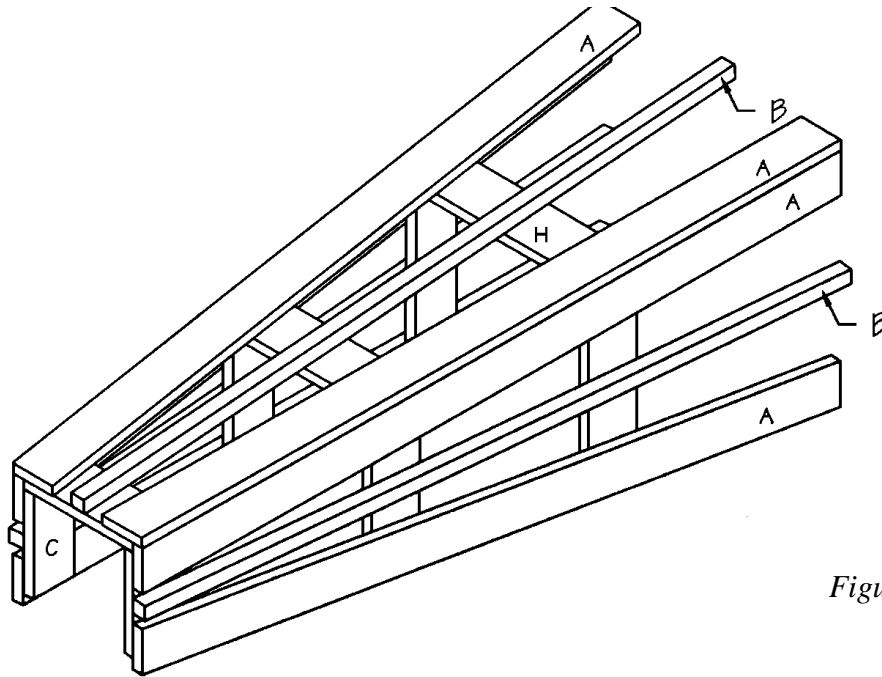

Figure 6
5. Place one Vertical (A) against the edge of another Vertical (A) and Long Top, Middle, and Bottom Supports (F, G, and H), as shown in *Figure 6*. Apply glue to the meeting surfaces and screw through the Vertical (A) into the Long top, Middle, and Bottom Supports (F, G, and H) and into the Vertical (A), using two 1-1/4" wood screws in each joint spaced every 6 inches along the Vertical (A).
6. Repeat Step 5 to attach another Vertical (A).
7. Turn the assembly over and repeat Steps 5 and 6 to attach the remaining two Verticals (A).
8. Position one Center Vertical (B) between the two Verticals (A), over the Long Top, Middle, and Bottom Supports (F, G, and H), as shown in *Figure 6*. Apply glue to the meeting surfaces, and nail through the Center Vertical (B) into the Long Top, Middle, and Bottom Supports (F, G, and H), using a 1-1/4" finish nail on each joint.
9. Repeat Step 8 for the remaining Center Vertical (B).